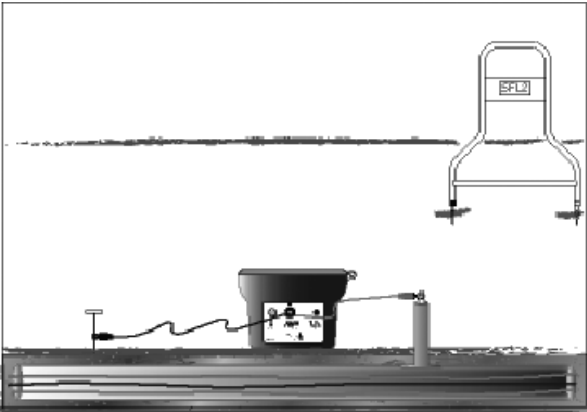

Figure 3-1: Clamping Black Lead to Ground Rod; Clamping Red Lead to Conductor
4. Push the ground rod into earth and clamp the Black lead to ground rod. Establish the best ground possible. See Figure 3-1
5. Clamp Red lead to target conductor sheath. See Figure 3-1